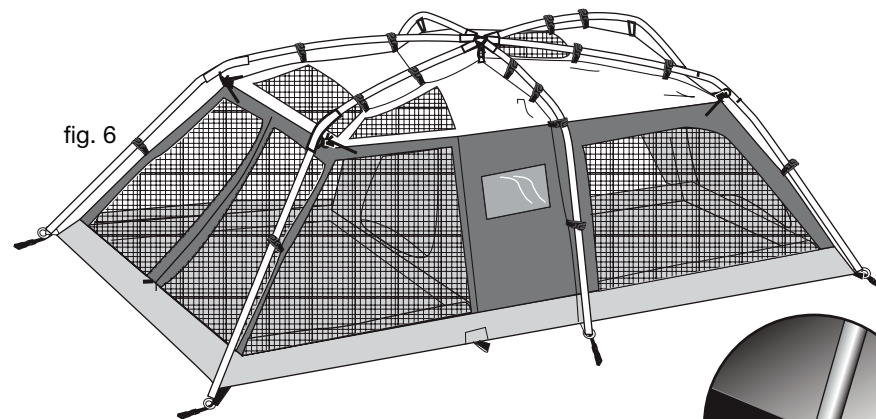

fig. 6
9. **Attach all clips** to the poles and attach the corner shockcords to the J-hooks at the elbow of each corner pole. See fig. 6.